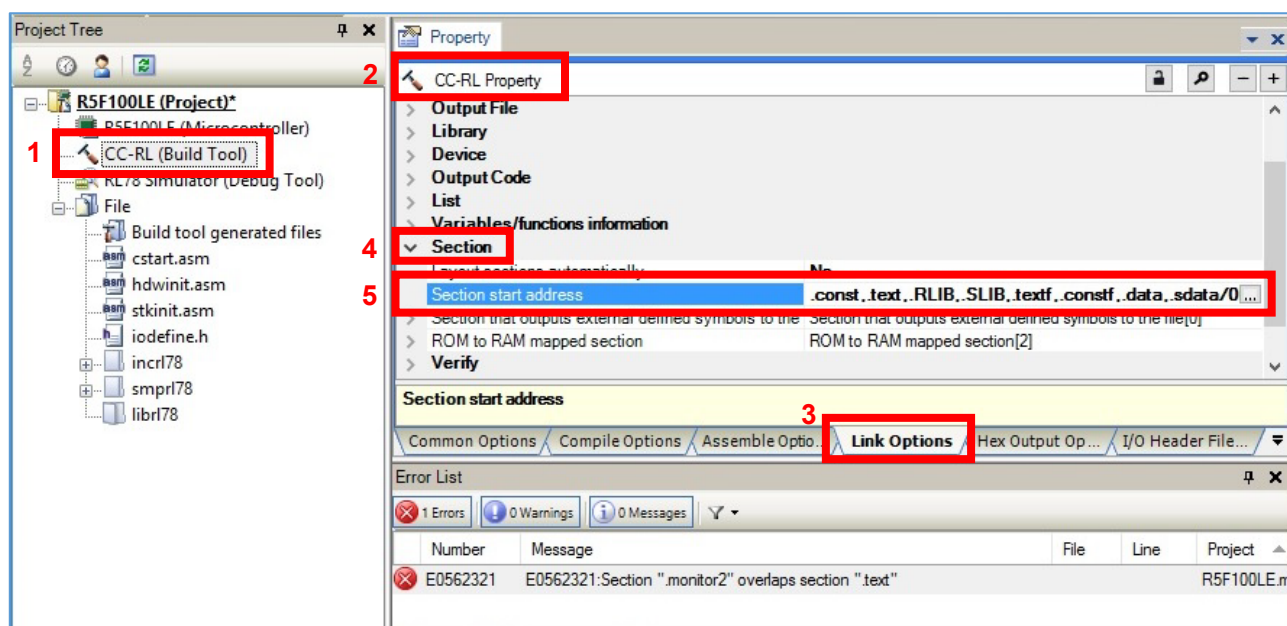

Figure 6-21. Modifying the Section Allocation
This error occurs when the section for the monitor area (OCDROM) used by the on-chip debugging function cannot be allocated. Therefore, to avoid this error, right click the CC-RL (Build Tool) node (1) in the CS+ Project Tree window, select Property to open the CC-RL Property panel (2), and select the Link Options tab (3). In the Section category (4), modify the setting for Section start address (5) so that no other areas overlap the area where the section for the on-chip debugger monitor is allocated (monitor2: the initial address range is 0xFE00 to 0xFFFF in R5F100LE). (as shown in Figure 6-21)